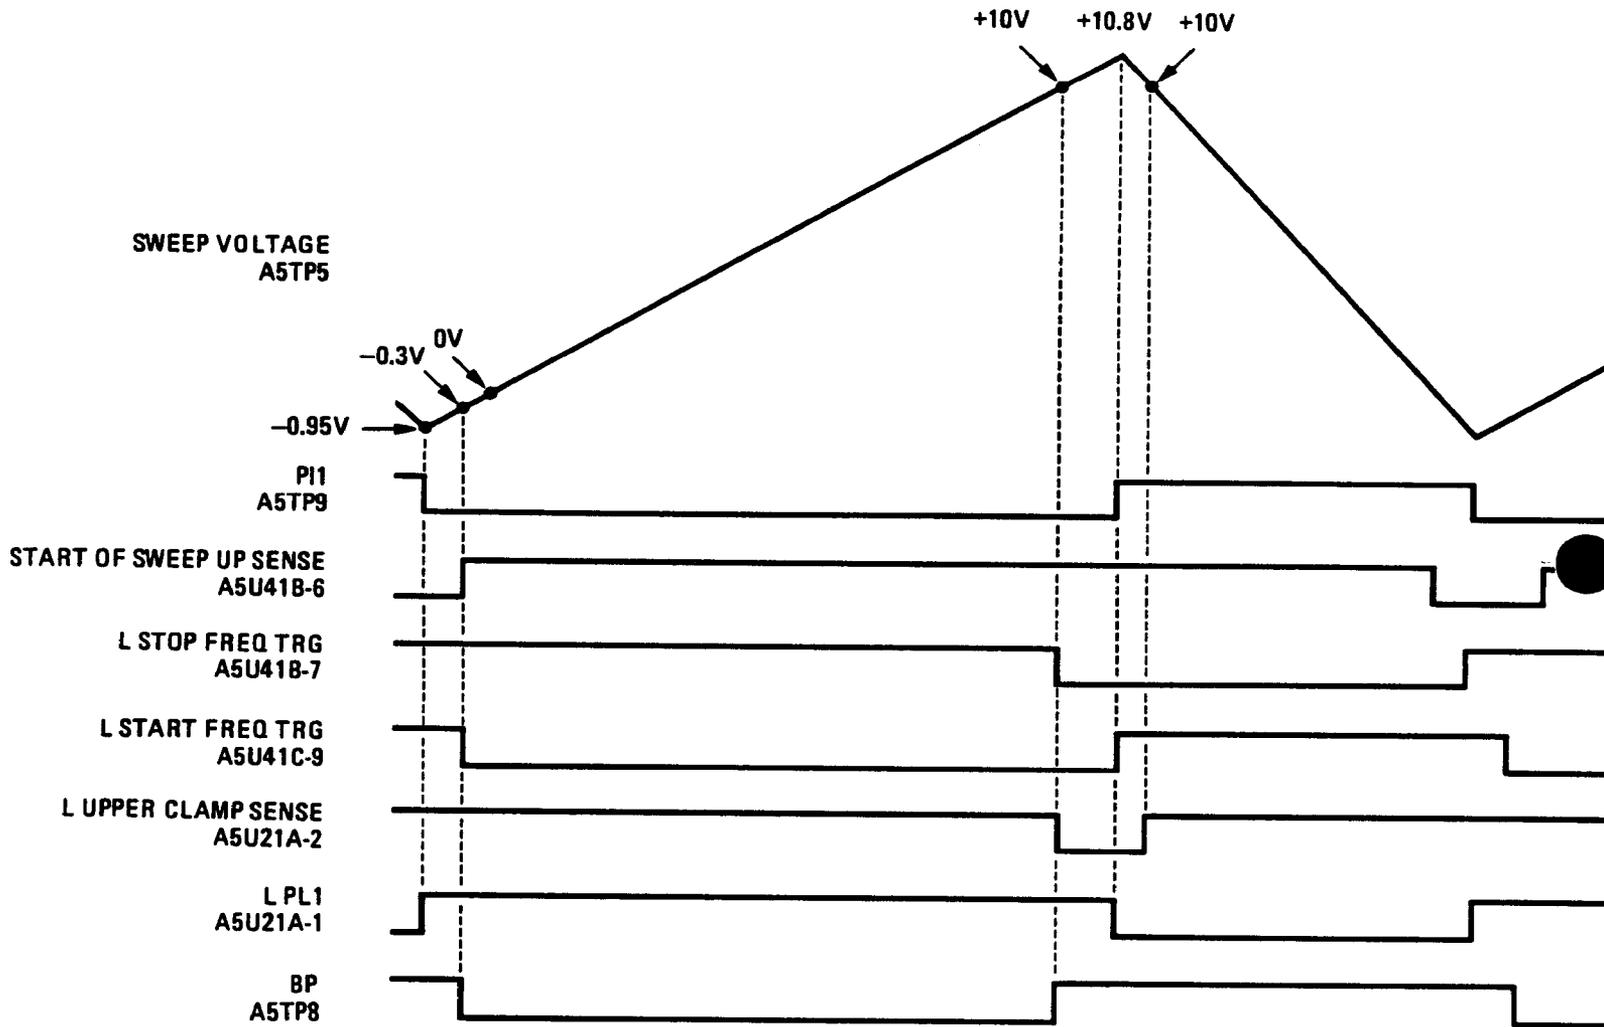

Figure 8-36. Sweep Ramp Status Timing Diagram
The sweep ramp status circuit produces a Blanking Pulse (BP) that is active high at all times except when the sweep ramp is positive going and between 0 and +10V. The L UPPER CLAMP SENSE line is high during sweep up and goes low at +10V then high again when the sweep goes below +10V during retrace. The L START FREQ TRG and L STOP FREQ TRG lines are used by the counter interface circuit. Refer to Figure 8-36 for a timing diagram of the sweep ramp status waveforms.